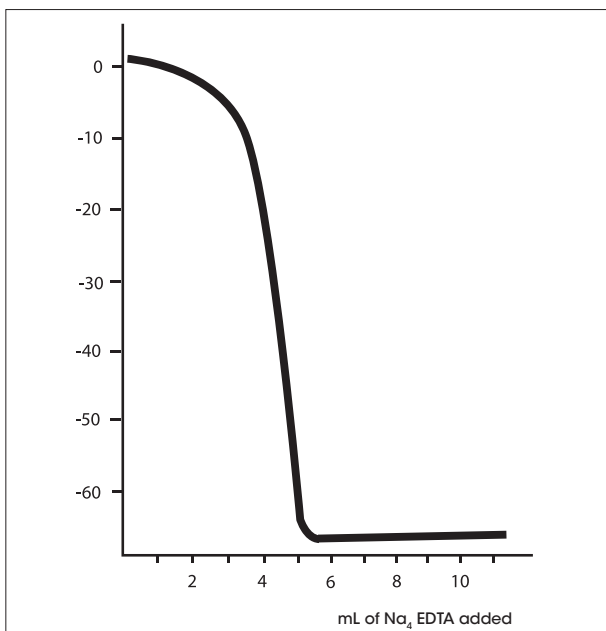

Figure 3 – Typical Titration of 100 mL of 5×10^{-3} mol/L CaCl_2 with 0.1 mol/L Na_4EDTA when pH was adjusted to 10 with ammonia
2. Perform an equivalence point titration using a standard EQP (equivalence point) titration method template available in the Tx Excellence and G20 Compact titrators. The EQP of the titration is the point of the greatest slope (inflection point). **See Figure 3.**